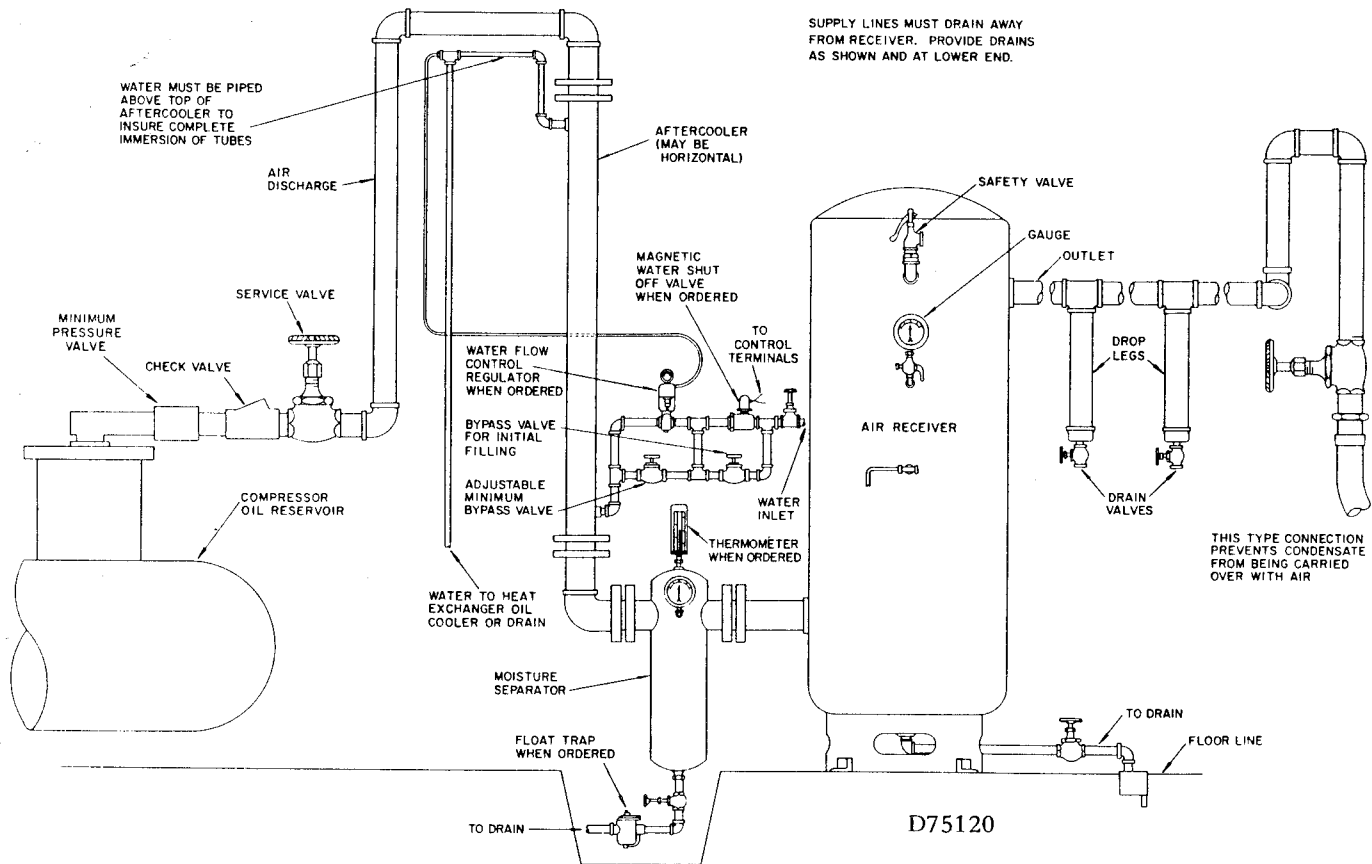

FIGURE 3-2. — AUXILIARY ACCESSORIES
**AUXILIARY AIR RECEIVER** — Constant speed control units do not normally use an auxiliary air receiver. Duo-matic control units require an auxiliary air receiver unless the piping system is large and provides sufficient storage capacity to prevent rapid cycling. When used, an air receiver should be of adequate size, provided with a relief valve of proper setting, a pressure gauge and a means of draining condensate. Figure 3-2 shows a typical air receiver and auxiliary accessories.
**AFTERCOOLER** (Figure 3-2) — An aftercooler will provide control of moisture entering the shop air lines while reducing the normal low discharge temperature of about 170° F. at 100 PSIG discharge pressure to near inlet air temperatures.